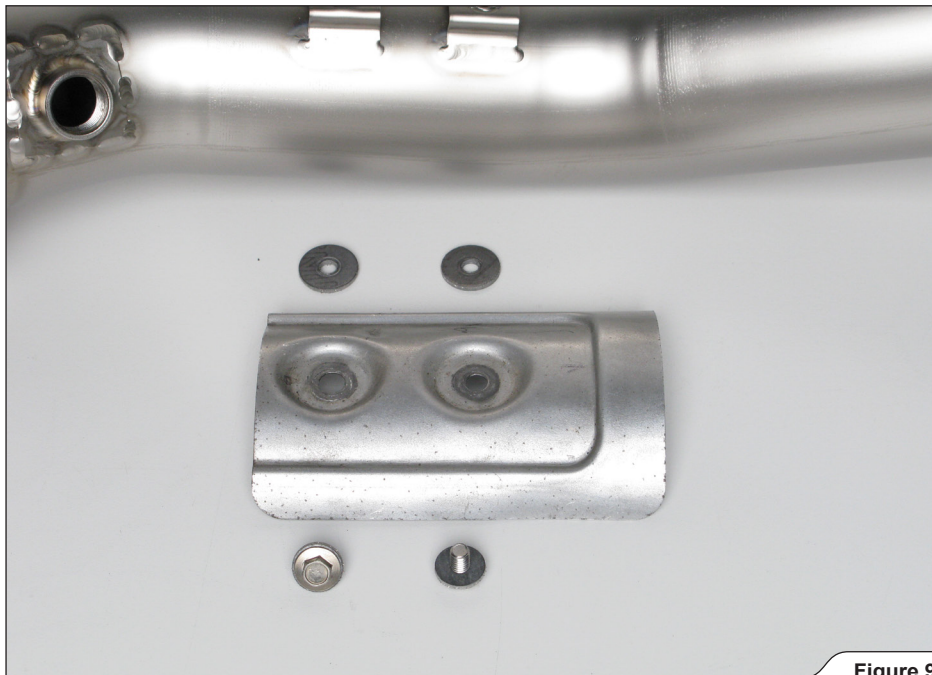

Figure 9
1. **For optional Down Pipe only:** transfer the stock heatshield to Akrapovič Down Pipe, using bolts and heat resistant washers from Akrapovič fitting kit, as shown **(Figure 9, 10)**.